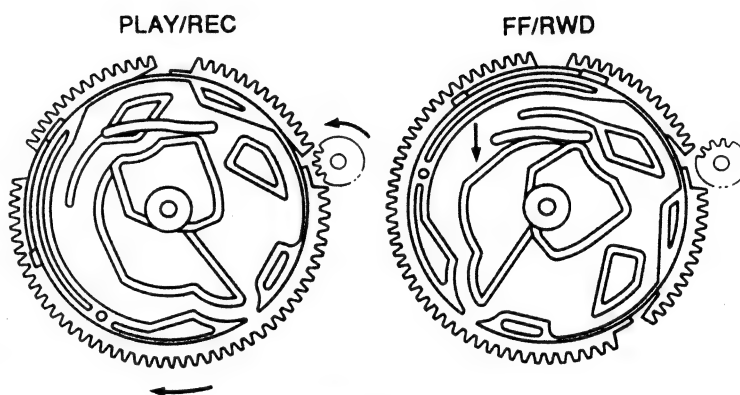

Fig. 15
3. The head slider goes down, and the pinch roller is separated from the capstan. (Fig. 15)